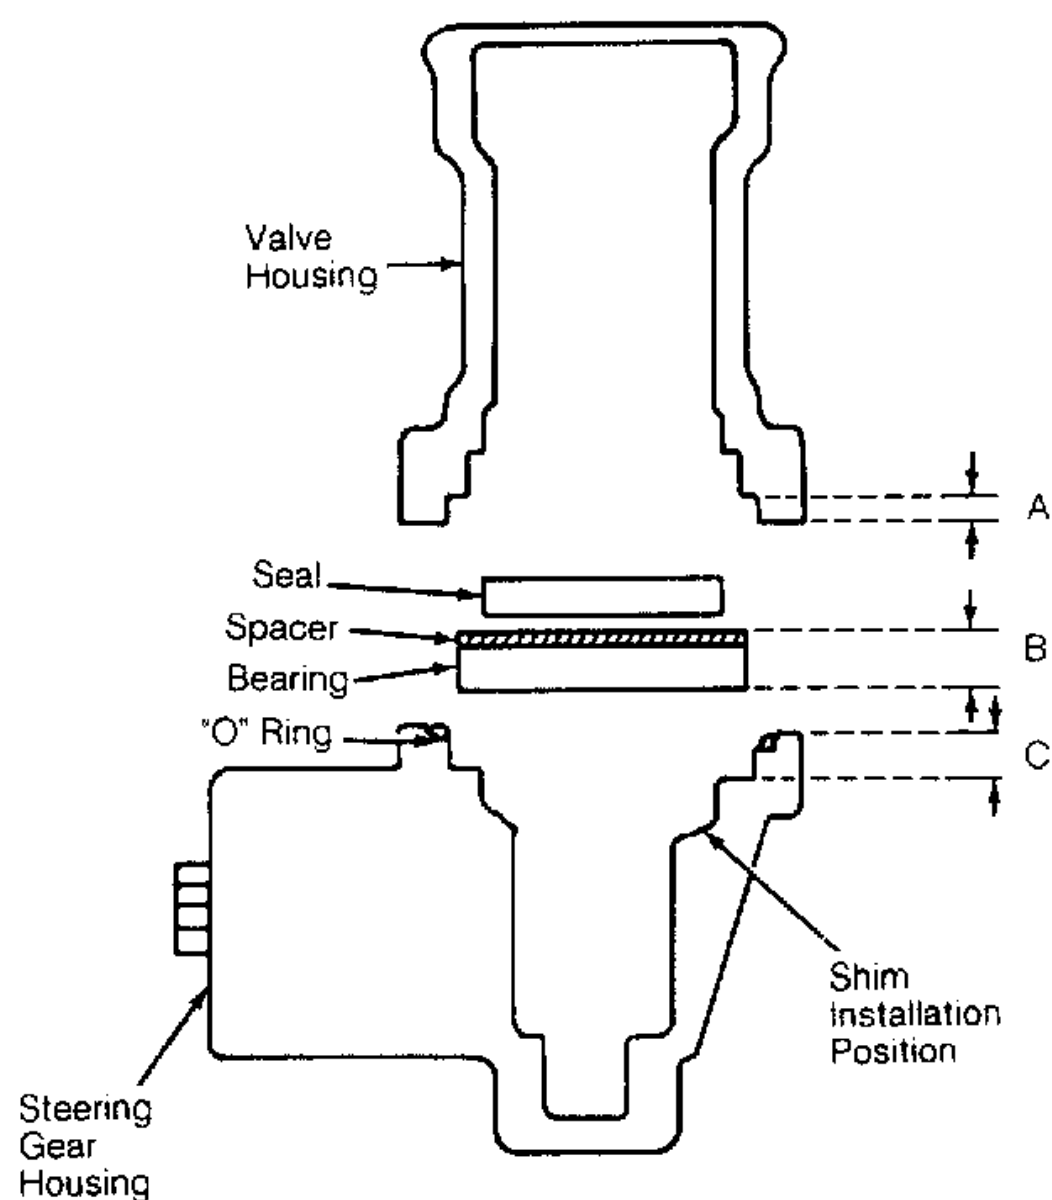

Fig. 5: Determining Replacement Shim Thickness (Festiva)
4. Measure valve housing, lower bearing and spacer, and steering gear housing. See Fig. 5 . Use the following formula to determine proper shim thickness: $T = A C - B$ Where "T" is the shim thickness.